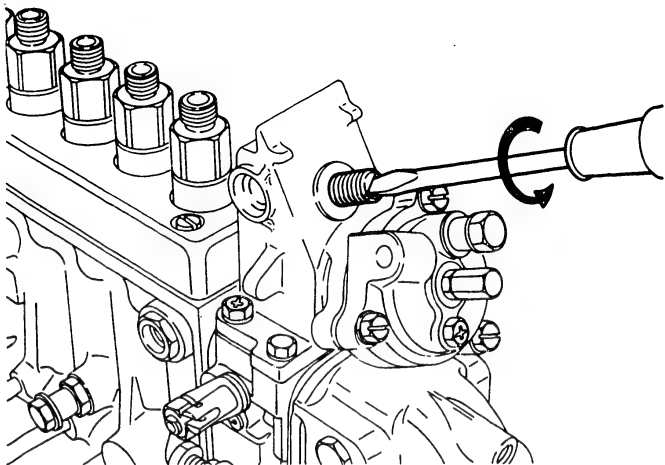

Fig. 76 Removing the rack position adjustment screw
2. Use a screwdriver to remove the rack position adjustment screw (250/91) (refer to Fig. 76).